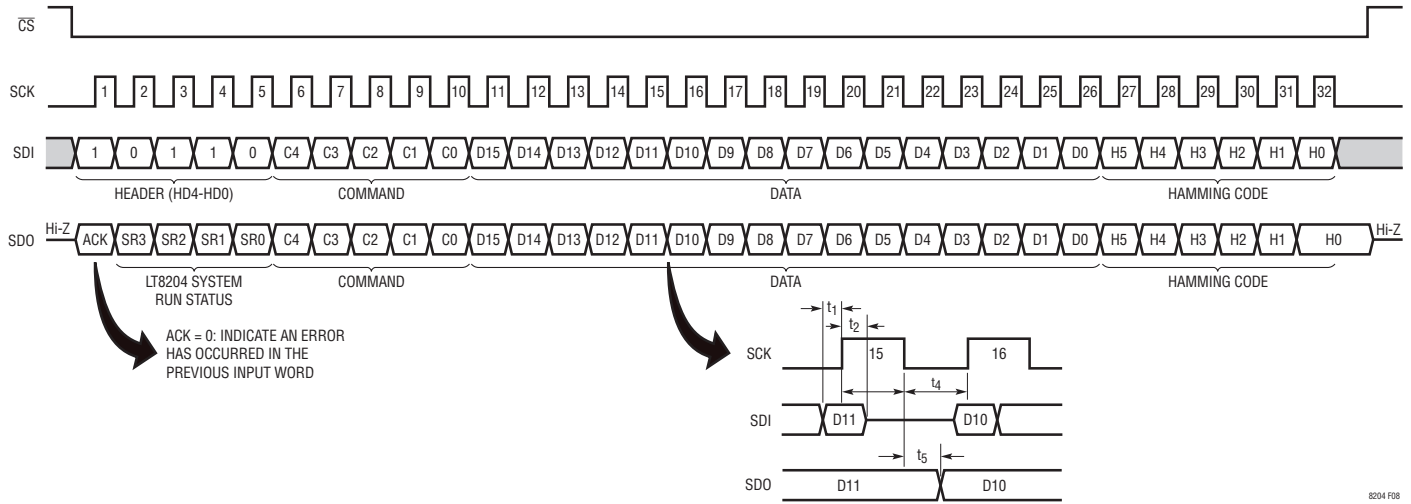

Figure 8. SPI 32-Bit Load Sequence
**SDI (Pin 31):** Serial Data Input Pin. The SDI pin is the SPI digital communication port from the host microprocessor to the LT8204. SDI sends the 32-bit command instruction to the LT8204 at the rising edge of SCK. The input word is encoded with Hamming code to allow for error detection and correction by the LT8204. The LT8204 accepts input word lengths of 32 bits. See Figure 8.
The complete sequence for SPI data transfer to and from the LT8204 is shown in Figure 8.